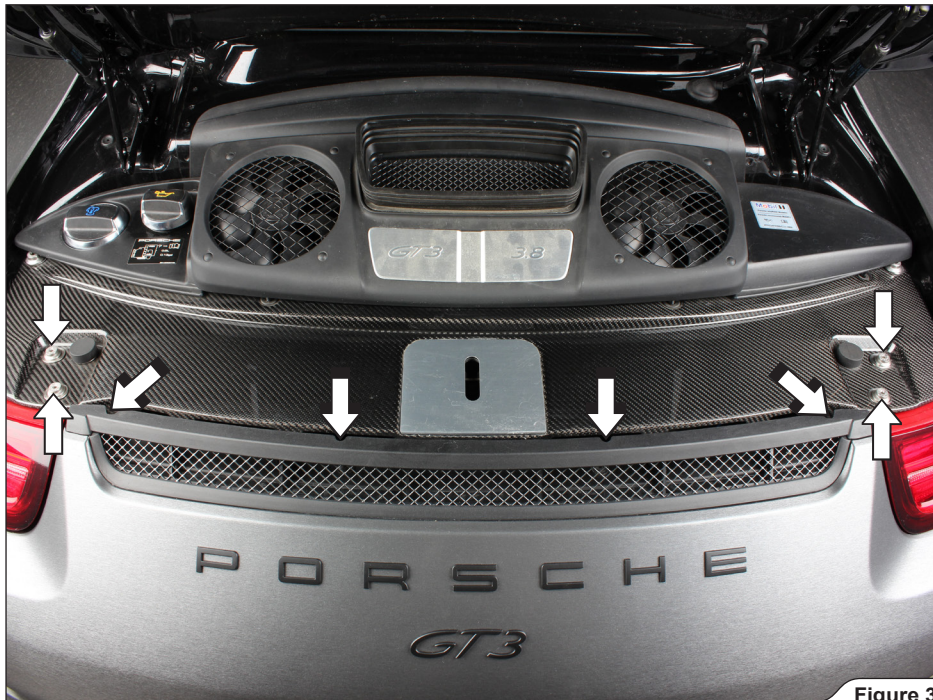

Figure 3
2. Unscrew the marked bolts (Figure 3).